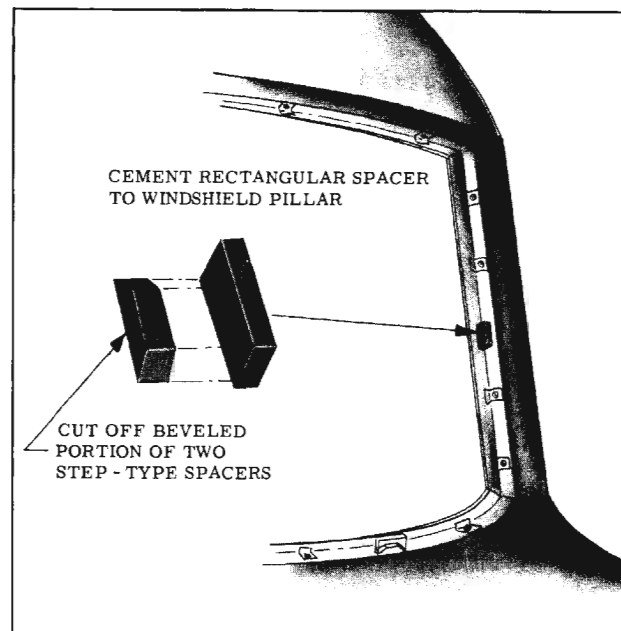

Fig. 16-215 Rubber Spacer Installation
2. Cut the beveled portion from two step-type spacers to make two rectangular spacers. (Fig. 16-215) Using weatherstrip adhesive (neoprene-type), cement one rectangular spacer at each windshield pillar.